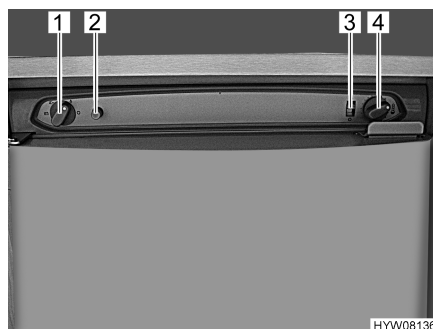

Fig. 64 Operating controls for the refrigerator
- Set energy selector switch (Fig. 64,1) to gas "🔥".
- Set the control knob (Fig. 64,4) to highest level, press and hold in. Gas supply is open.
- Press lighting knob (Fig. 64,2) several times with pauses of 1 to 2 seconds.
- Keep the control knob pressed down until the flame indicator (Fig. 64,3) becomes green and then release it. If the flame goes out, repeat ignition procedure.
- Use the control knob (Fig. 64,4) to adjust the refrigerating temperature.
- Set the energy selector switch (Fig. 64,1) to "0". The appliance is switched off.
- Turn control knob (Fig. 64,4) to "0".
- Set energy selector switch (Fig. 64,1) to 240 V operation "⏻".
- Set energy selector switch (Fig. 64,1) to 12 V operation "⏻".